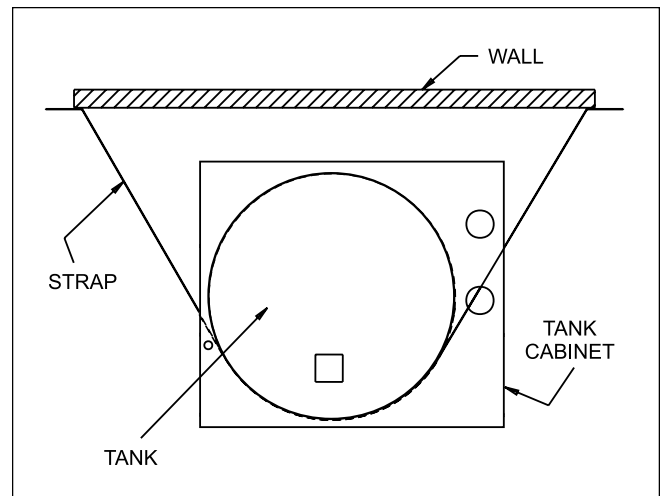

Figure 3. Strap Location.
- If the product is to be installed in a location where vibration or tipping is a concern, the unit may be secured to a fixed vertical surface. The TL80 is equipped with slots in the cabinet that can accommodate a strap up to 1½" wide. To secure the unit to a wall, place a strap around the *tank* (not the tank enclosure), as shown in Figure 3. Allow the strap to pass through the slots provided in the cabinet. Secure the strap as necessary to the wall.